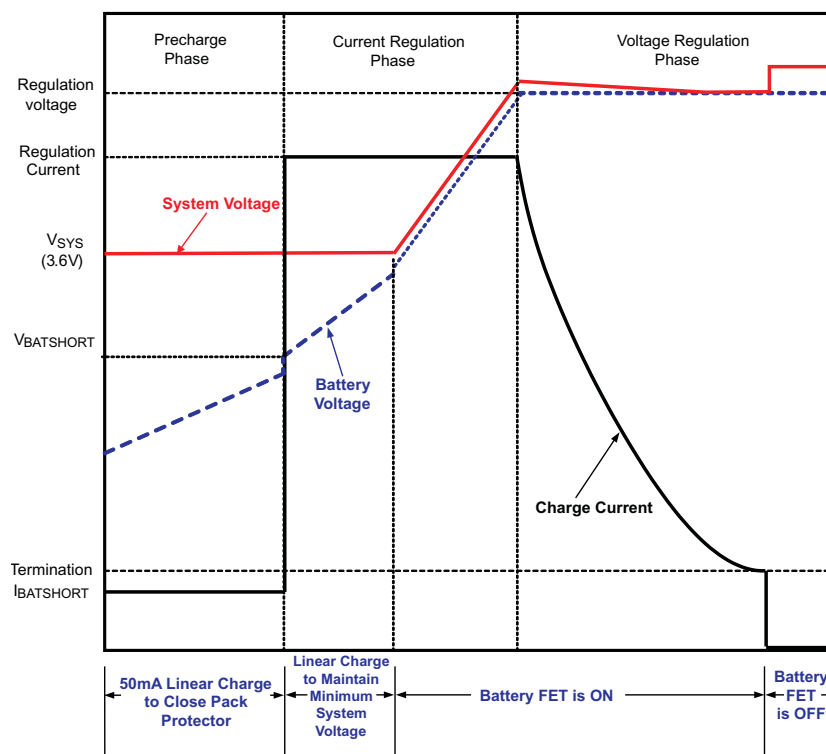

Figure 20. Typical Charging Profile of bq24165/6/7
Charging is done through the internal battery MOSFET. When the battery voltage is above 3.5V, the system output (SYS) is connected to the battery to maximize the charging efficiency. There are 5 loops that influence the charge current; constant current loop (CC), constant voltage loop (CV), thermal regulation loop, minimum system voltage loop (MINSYS) and input voltage dynamic power management loop (V_{IN-DPM}). During the charging process, all five loops are enabled and the dominate one takes control. The bq24165/6/7 supports a precision Li-Ion or Li-Polymer charging system for single-cell applications. The minimum system output feature regulates the system voltage to a minimum of $V_{SYS(REG)}$, so that startup is enabled even for a missing or deeply discharged battery. Figure 20 shows a typical charge profile including the minimum system output voltage feature.